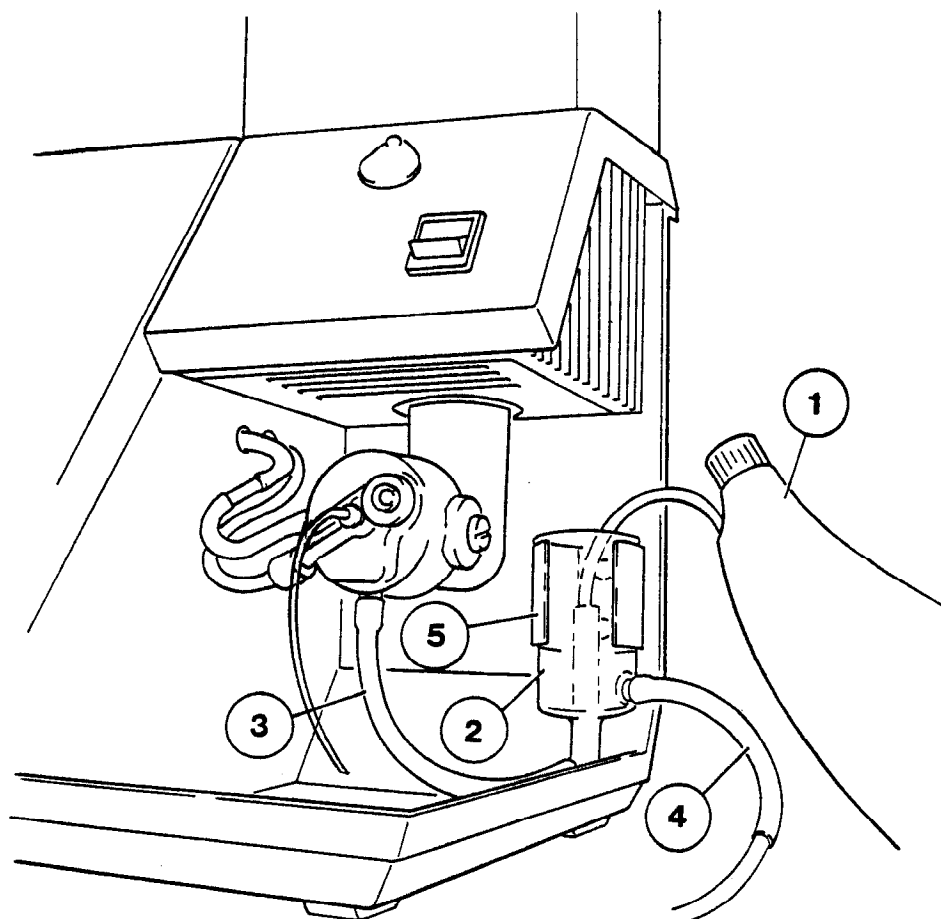

Figure 2.4 Filling the 'U' Tube
17. Fit one of the 200mm lengths of drain tubing (item 4, Figure 2.4) to the outlet on the constant head drain (or Gas Trap). If necessary connect a suitable length of tubing (not supplied), to extend the drain tubing to carry waste to a sink or other drain receptacle. The downward flow of waste must not be restricted. The second length of tubing supplied is a spare for either the 'U' tube or drain tube.
18. *Make sure* that the constant head drain (Gas Trap) is positioned so that the lip at the top is resting on the spring clip. Use a wash bottle (item 1, Figure 2.4) to fill the 'U' tube with deionised water. Sufficient water should be used to purge the tube of air. Allow excess water to flow back into the drain.